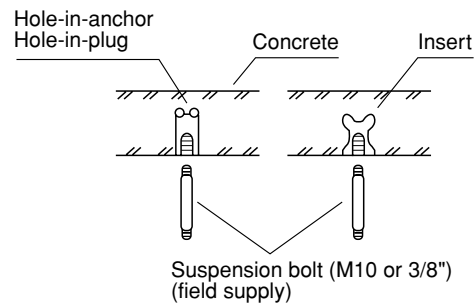

Fig. 3-38
- (2) Drill holes at the 4 points indicated on the full-scale diagram.
- (3) Depending on the ceiling type:
- a) Insert suspension bolts as shown in Fig. 3-38.
- (4) Screw in the suspension bolts, allowing them to protrude from the ceiling as shown in Figs. 3-38 and 3-39. The distance of each exposed bolt must be of equal length within 50 mm. (Fig. 3-40)